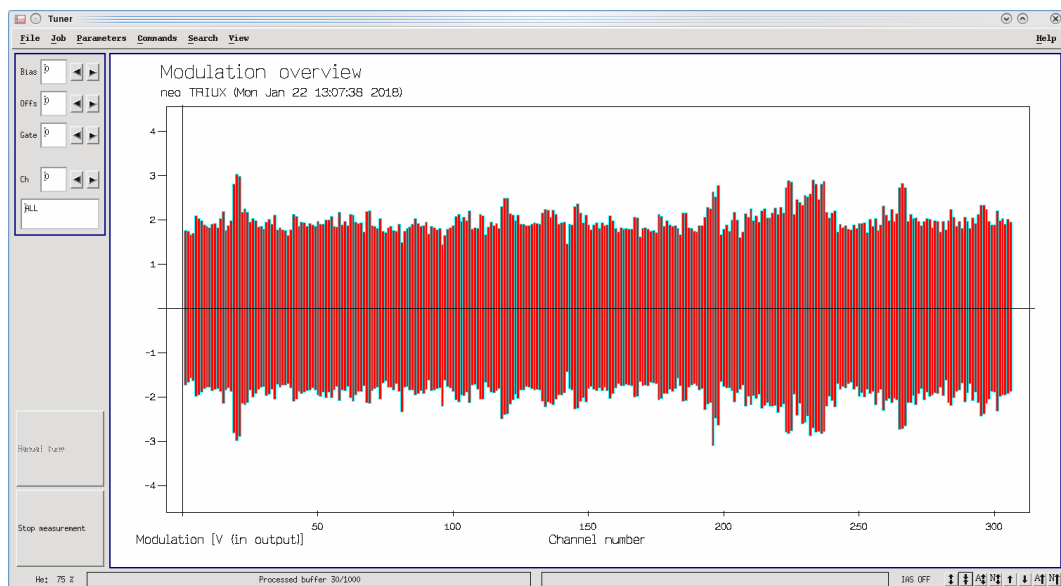

Figure 37: Tune curve modulation depths of all channels.
- View the modulation depths of the tuning curves (default) shown by bars (Figure 37).